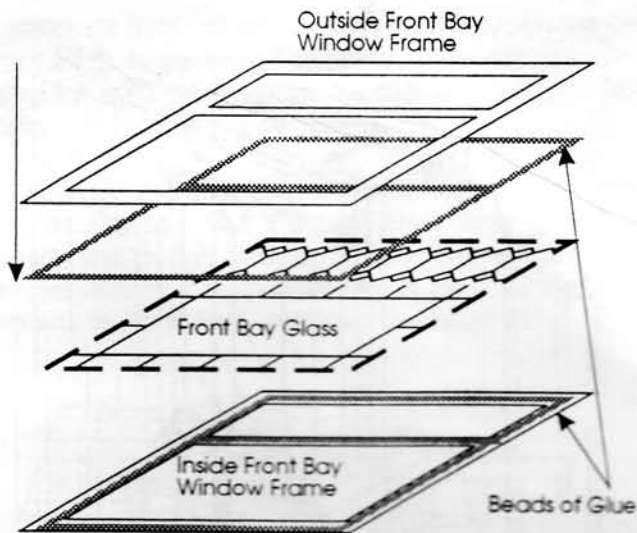

Figure 26
- a. Assemble the same as the Slider/Frame assembly except that the Inside and Outside Frames are the same size. See Figure 26.